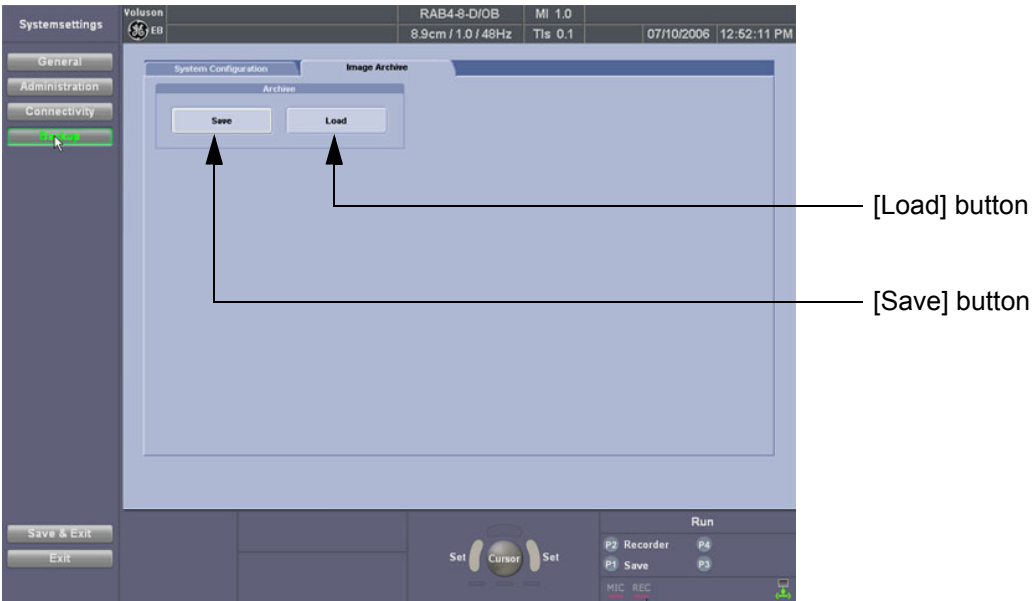

Figure 4-35 System Setup - Backup - IMAGE ARCHIVE page
- 4.) Click the **LOAD** button (see: Figure 4-35 on page 4-42).